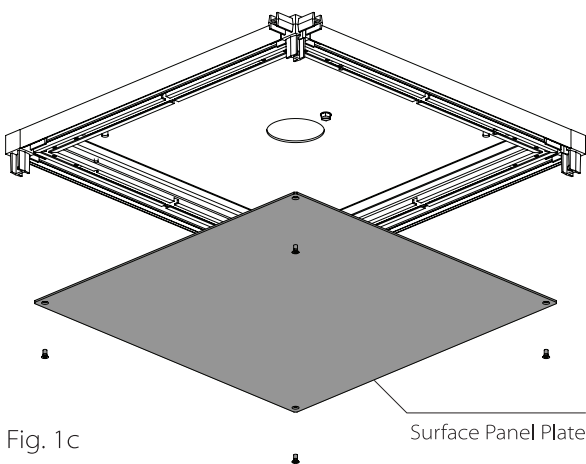

Fig. 1c
6. Remove Surface Panel plates from all frames as shown in Fig. 1c.